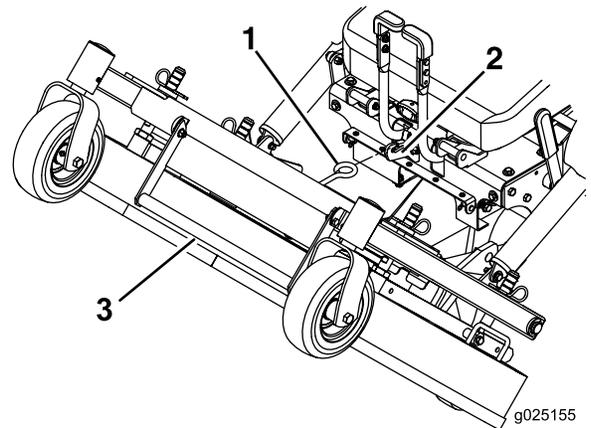

Figure 9
- Using the deck-lift handle, lift the deck and latch it in the raised position (latch is located at front center of seat) as shown in Figure 9.
1. While firmly holding onto deck-lift handle, unhook the mower-deck latch from the machine and slowly lower the mower deck to the ground (Figure 9).